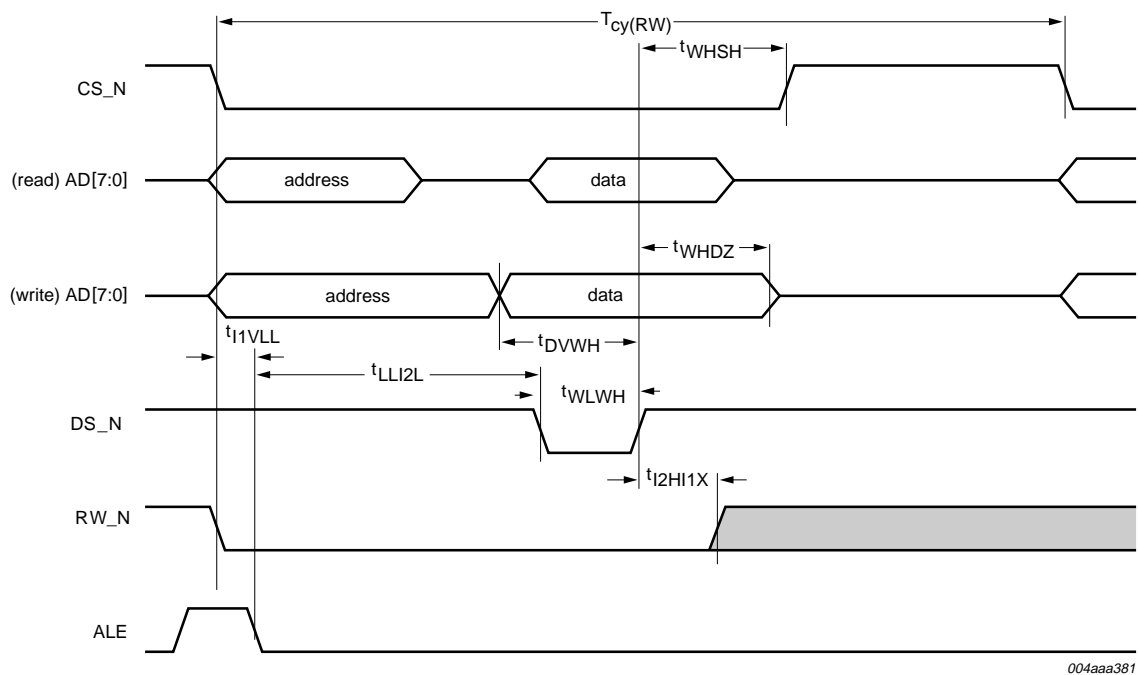

Fig 25. ISP1583 register access timing: multiplexed address/data bus (Motorola style).
- MODE0 = L: Motorola style; see Figure 25.